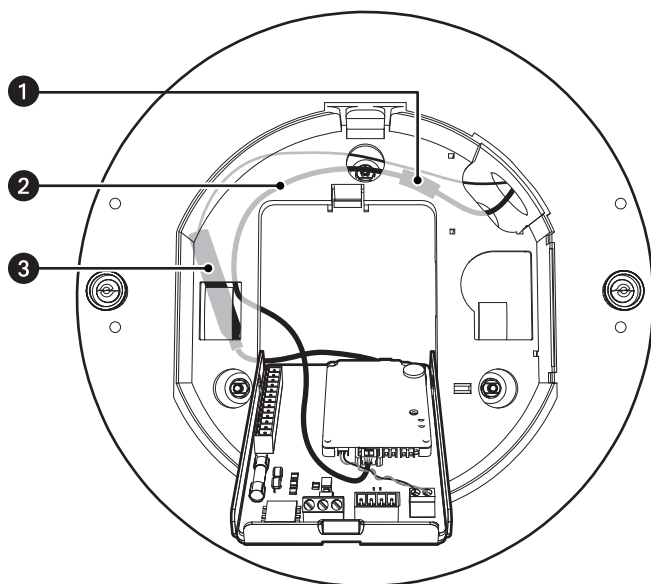

Figure 6. Routing the Cables
8. Before closing the interconnect door, ensure that no wires are between the top of the heat sink standoff and the back box. Both the video coaxial cable and the Ethernet cable need to be routed carefully to ensure clearance for the heat sink standoff. Refer to Figure 6.